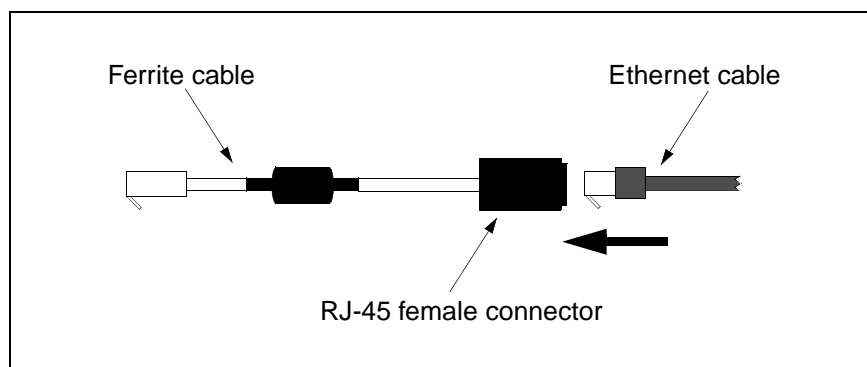

Figure 2 - Inserting a Ferrite Cable
2. Insert your Ethernet cable (RJ-45 male connector) into the box-shaped assembly (RJ-45 female connector) at the end of the ferrite cable as shown in Figure 2.